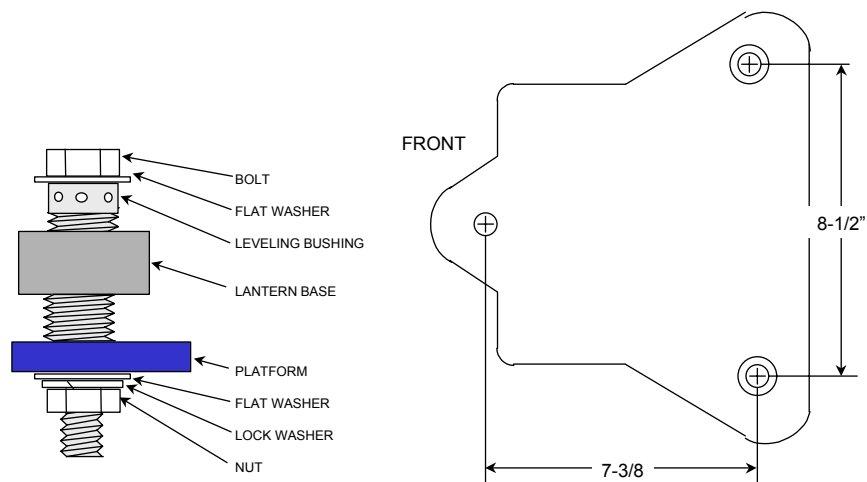

Figure 3-15
- c. Secure the lantern to the platform using 3/8" bolts as shown in figure 3-15.